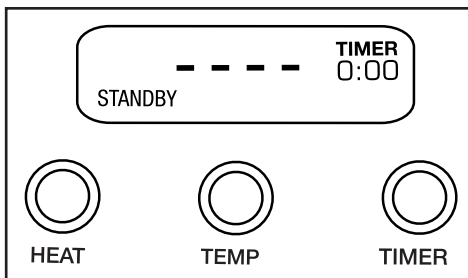

Figure 1
- 120, 208 and 240 volt units are supplied with a molded 3-prong grounding-type plug and should be used in combination with a properly connected grounding-type outlet, as shown in Figure 1.
will flash (as seen in figure 1) when attempting to select a heat mode without an induction-ready pan on the glass cooking surface. The unit will automatically shut off after 60 seconds of not having an induction-ready pot/pan.